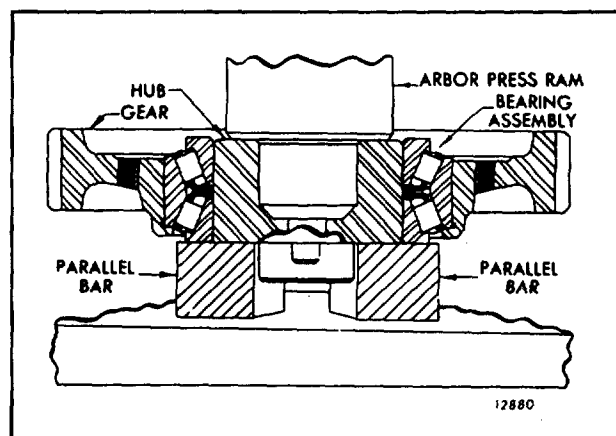

Fig. 5. Pressing Hub into Bearing
7. Press the outer idler gear bearing cone over the hub while rotating the gear to seat the rollers properly between the cones. The bearing cones must be supported so as not to load the bearing rollers during this operation (Fig. 5).